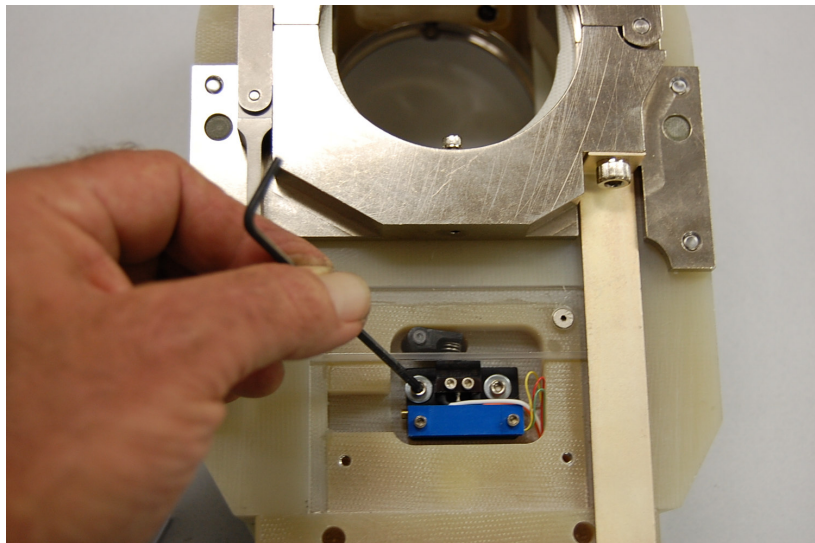

Fig. 19
- 9.3.1 For Models 9-2500, 9-3500, 9-4500, 9-7500 and other heads in this series, loosen both screws that hold the return-to-home limit switch bracket. See fig.19.